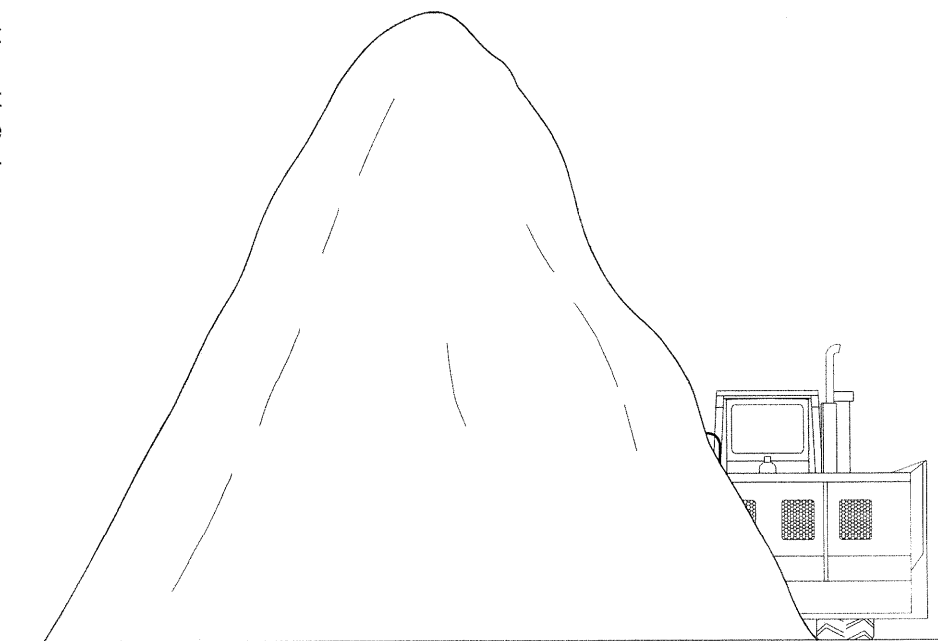

Fig. 4-8
2. Do not cut into a cone with the bucket too high. If you enter the pile with the bucket too high the wheel opposite the pile will be much lower making an uneven cut. See Fig. 4-8.